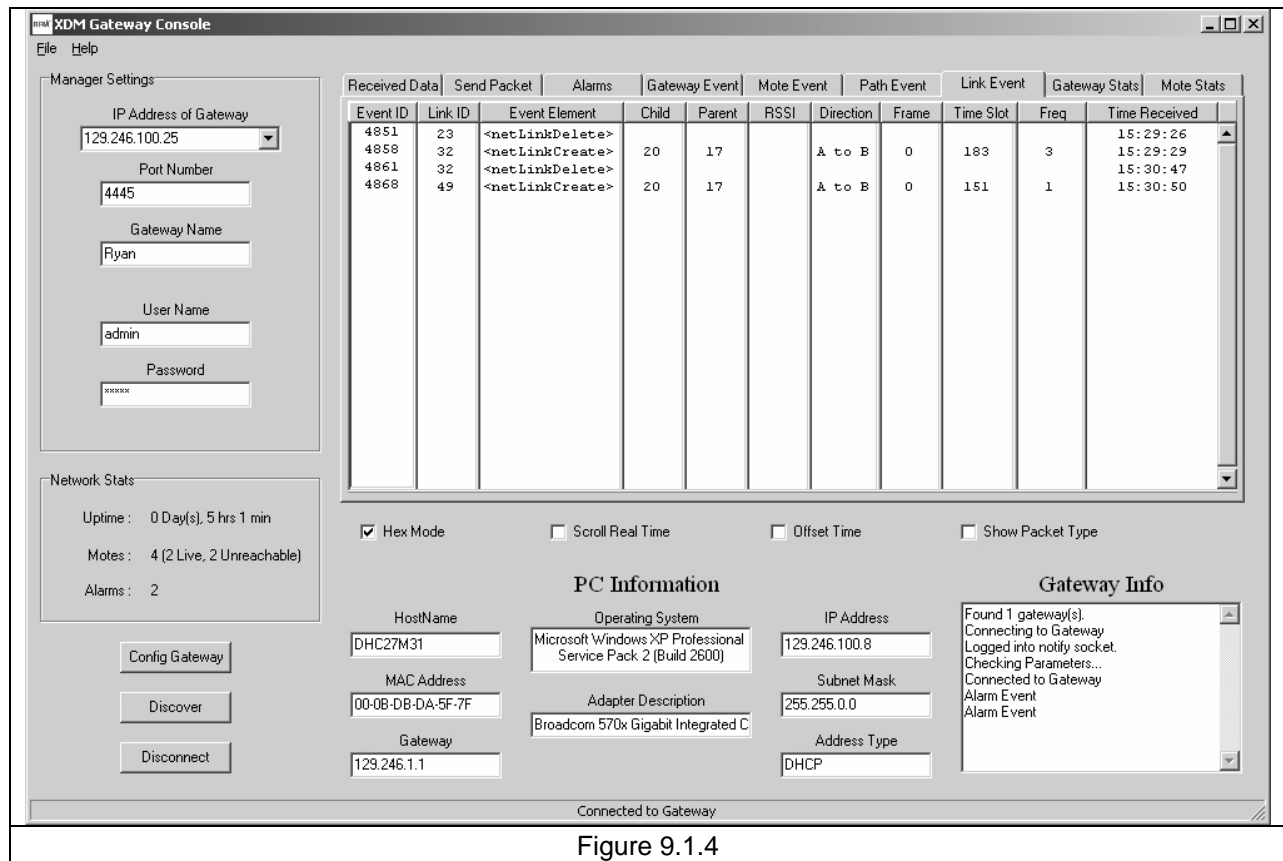

Figure 9.1.4
- Allow about five to 10 minutes for the mesh network to form between the XG2510HE gateway and the XDM2510H development boards. You can monitor the network linking activity under the Link Event tab as shown in Figure 9.1.4. The Network Stats area on the left side of the *xdmconsole* will indicate four live “Motes” (XDM2510H module connections) after the network completely forms.